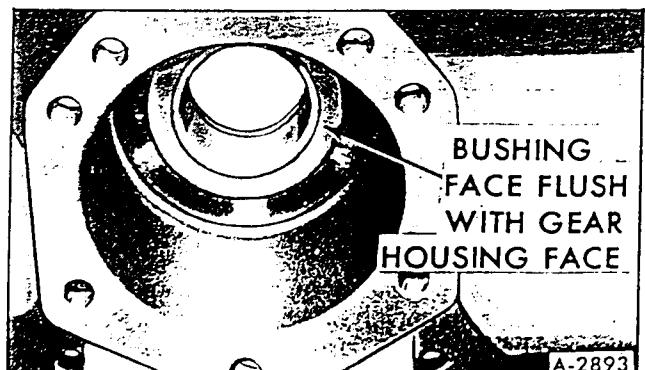

Figure 29 - Bushing Installed in Gear Housing
2. If bushing was removed from gear housing, press bushing into gear housing until inside face of bushing is flush with inside face of gear housing (fig. 29).